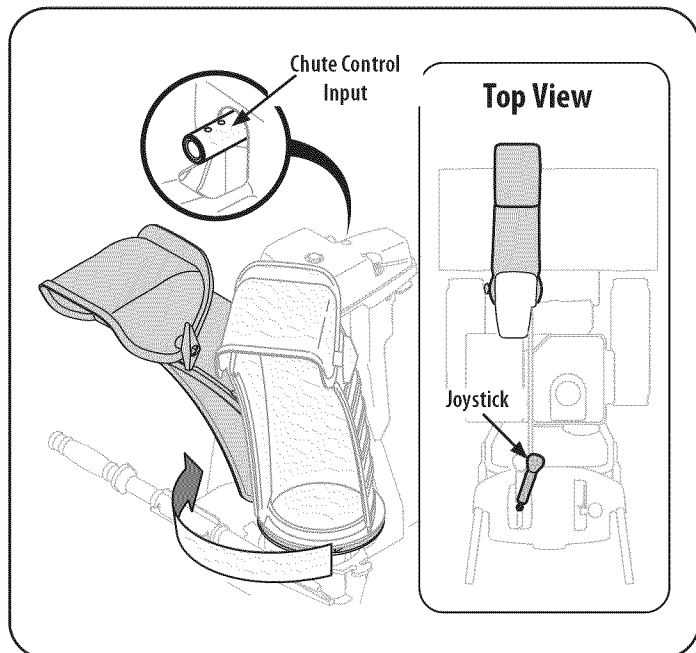
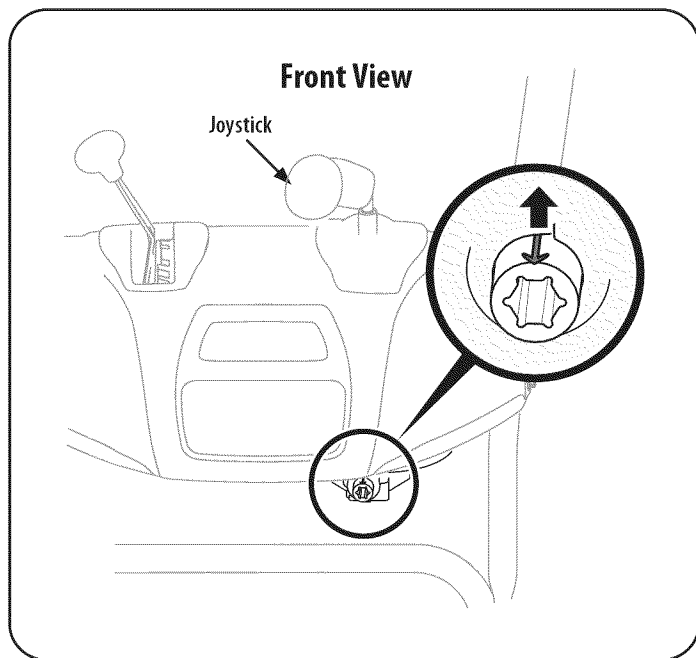

Figure 5
Figure 6
- Squeeze the trigger on the handle panel joystick and rotate the chute by hand to face forward. The holes in the chute control input will be facing up. See Figure 5.
- Rotate the joystick to the one o'clock position so the silver indicator arrow on the input shaft below the control panel points upward. See Figure 6.
NOTE: The joystick will be angled slightly to the right. See Figure 5 & Figure 6.